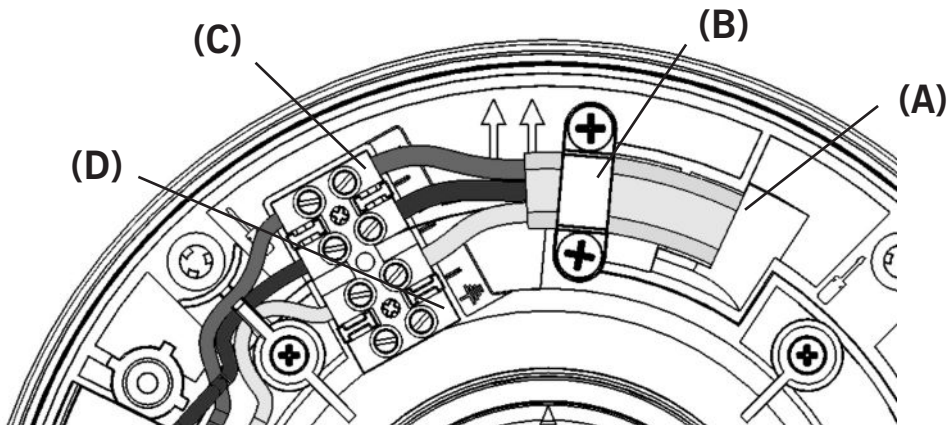

Figure 2 - Wiring Details
- Strip cable to correct lengths as shown in Figure 2 - Diagram 2.a.
- Insert cable through cable entry point (A), and then clamp cable using the cable clamp (B).
- Push the wires into the terminal block (C) as per wiring diagram (see section 2.7).